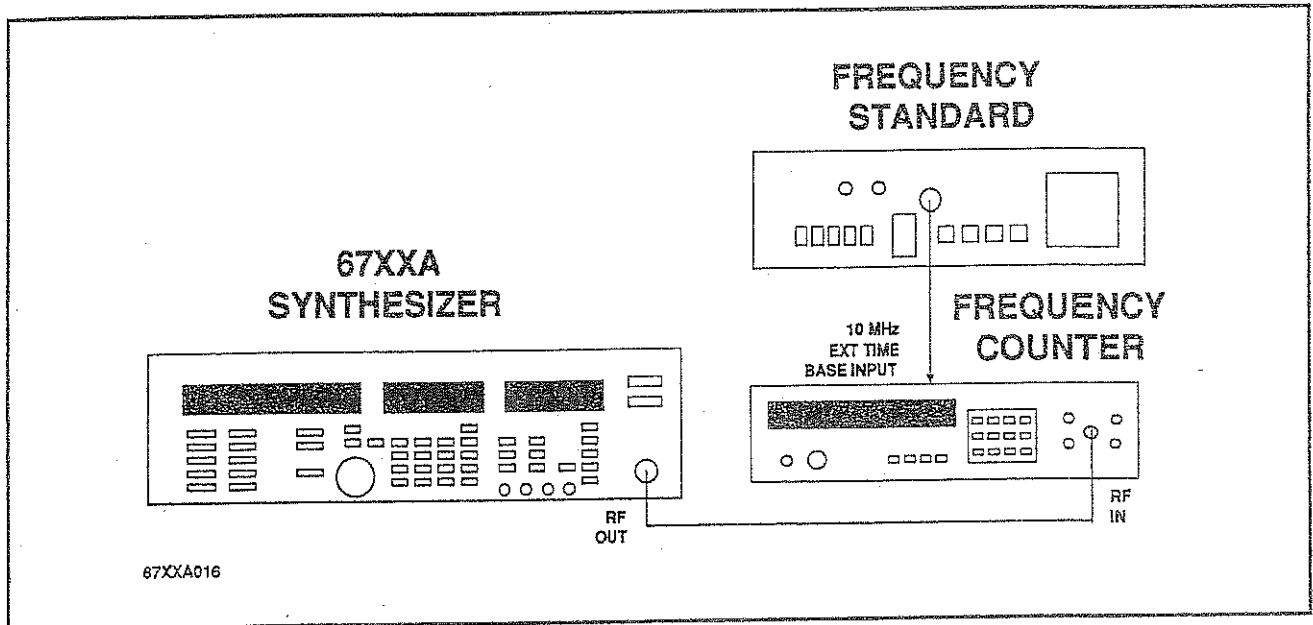

Figure 3-6. Test Equipment Setup for 10 MHz Reference Oscillator Calibration
1. Connect the equipment as shown in Figure 3-6.